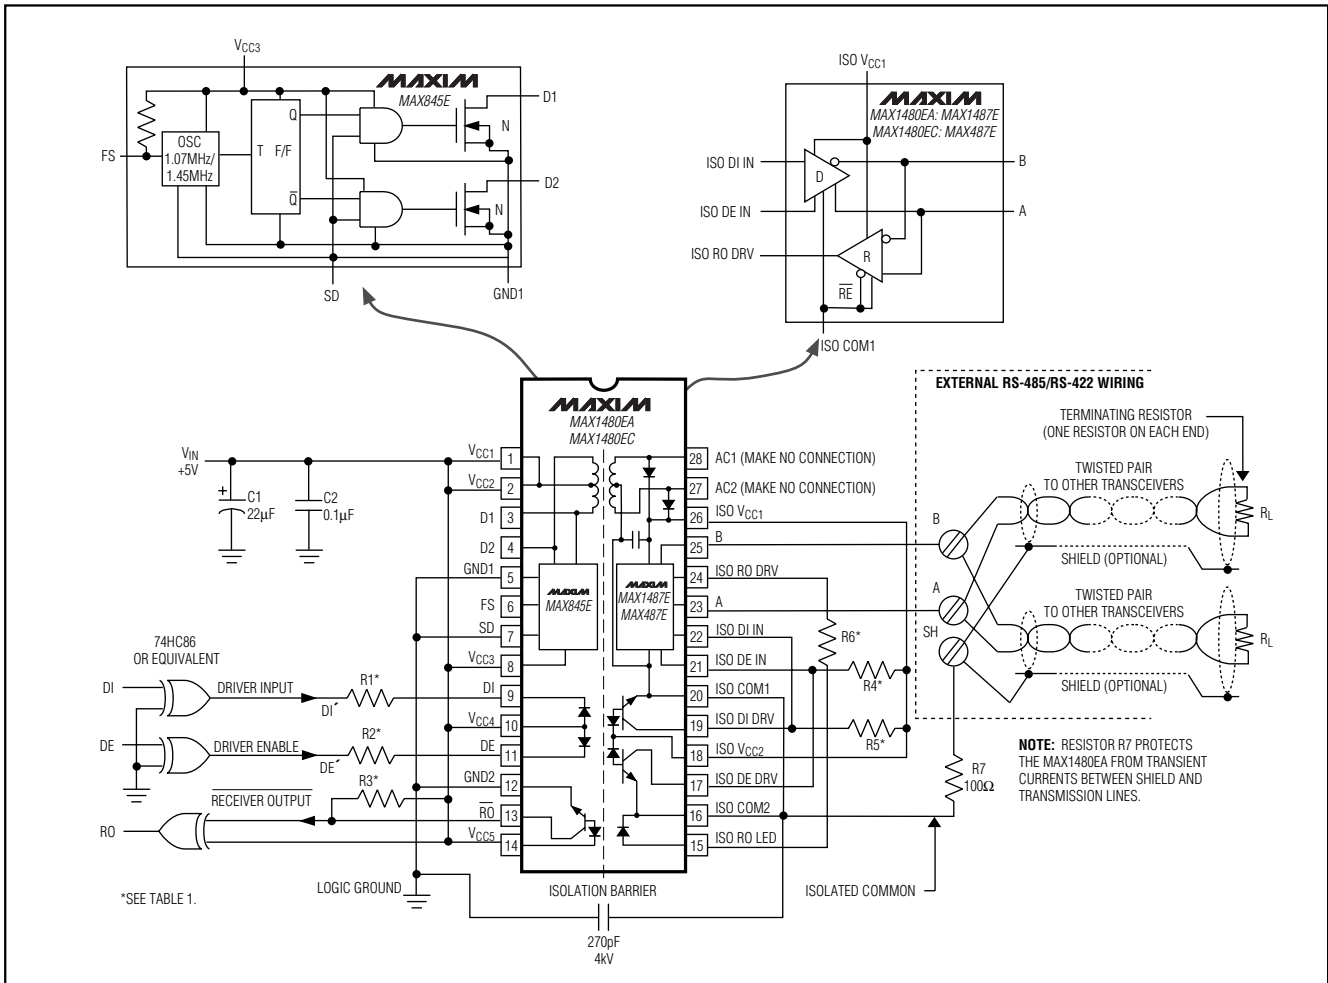
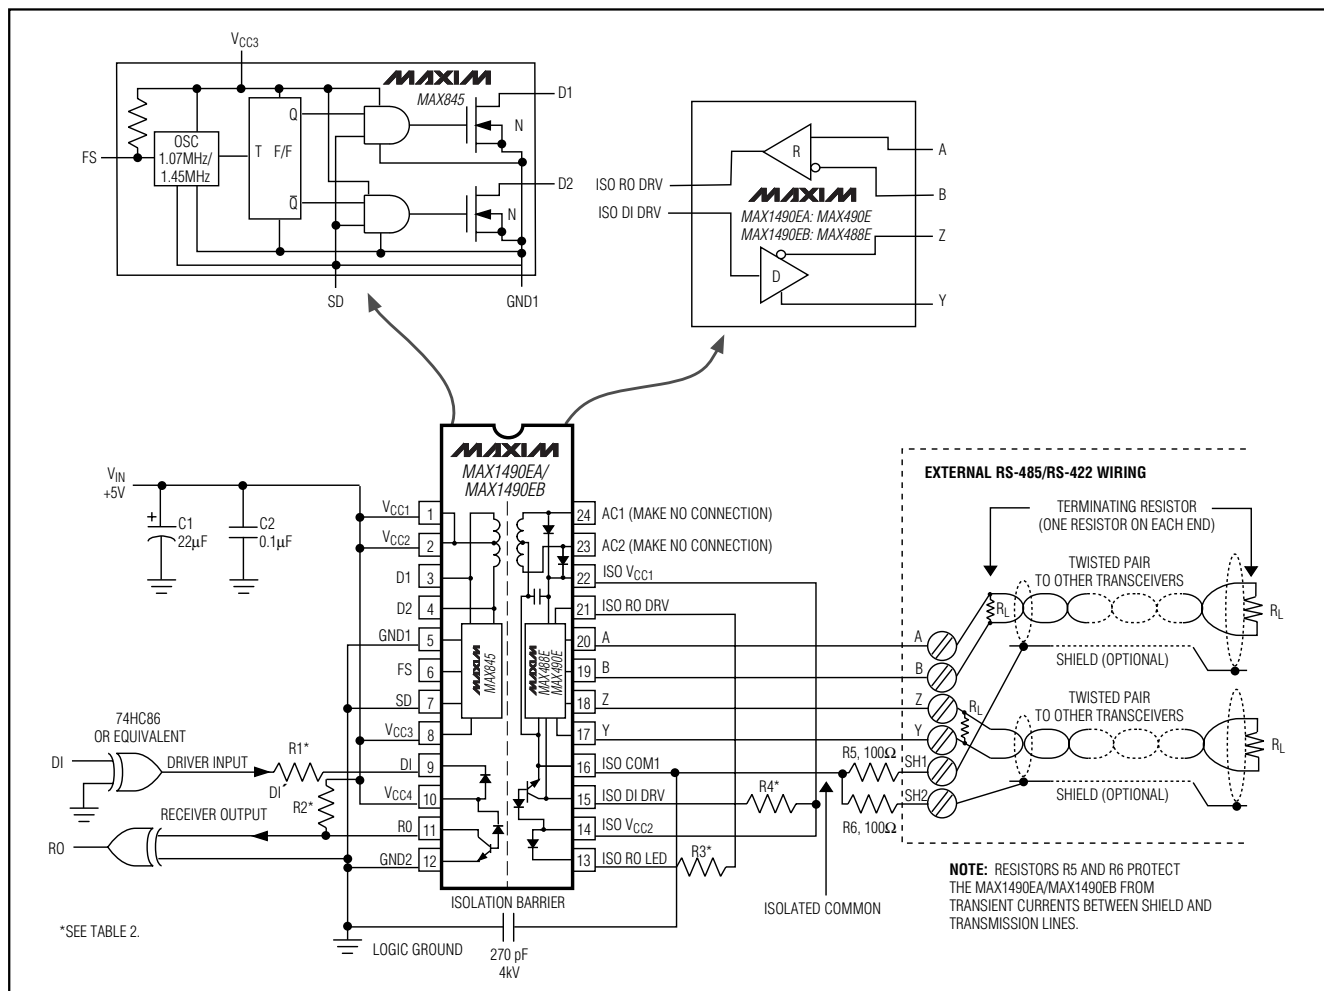

Figure 1. MAX1480EA/MAX1480EC Detailed Block Diagram and Application Circuit
Figure 2. MAX1490EA/MAX1490EB Detailed Block Diagram and Typical Application Circuit
Note 2: For DE⁺ and DI⁺ pin descriptions, see *Detailed Block Diagram and Typical Application Circuit* (Figure 1 for MAX1480EA/MAX1480EC, Figure 2 for MAX1490EA/MAX1490EB).
($V_{CC-} = +5V$, $V_{FS} = V_{CC-}$, Figures 1 and 2, $T_A = +25^\circ C$, unless otherwise noted.)
($V_{CC-} = +5V$, $V_{FS} = V_{CC-}$, $V_{DI} = 0$, DE toggled 0 to 5V at 5kHz, Figures 1 and 2, $T_A = +25^\circ C$, unless otherwise noted.)
Note: For DE⁺ and DI⁺ pin descriptions, see Detailed Block Diagram and Typical Application Circuit (Figure 1 for MAX1480EA/MAX1480EC, Figure 2 for MAX1490EA/MAX1490EB).
The MAX1480EA/MAX1480EC/MAX1490EA/MAX1490EB are complete, electrically isolated, RS-485/RS-422 data-communications interface solutions. Transceivers, optocouplers, a power driver, and a transformer in one standard 28-pin DIP package (24-pin package for the MAX1490EA/MAX1490EB) provide a complete interface. Signals and power are internally transported across the isolation barrier (Figures 1, 2). Power is transferred from the logic side (nonisolated side) to the isolated side of the barrier through a center-tapped transformer. Signals cross the barrier through high-speed optocouplers. A single +5V supply on the logic side powers both sides of the interface. The MAX1480EA/MAX1480EC offer half-duplex communications while the MAX1490EA/MAX1490EB feature full-duplex communication. The functional input/output relationships are shown in Tables 3 through 6.
Table 1. Pullup and LED Drive Resistors for Figure 1
Table 2. Pullup and LED Drive Resistors for Figure 2
* For DE[′] and DI[′] pin descriptions, see Detailed Block Diagram and Typical Application Circuit (Figure 1 for MAX1480EA/MAX1480EC, Figure 2 for MAX1490EA/MAX1490EB).
The ±15kV ESD test specifications apply only to the A, B, Y, and Z I/O pins. The test surge may be referenced to either the ISO COM or to the nonisolated GND (Figures 1 and 2).